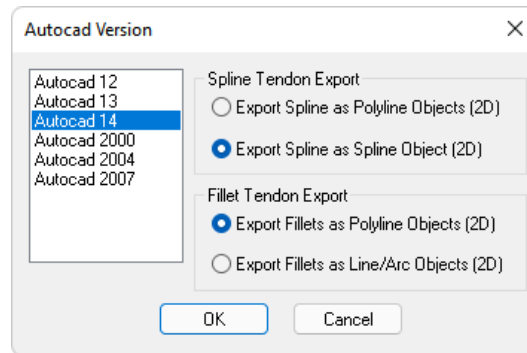

FIGURE 9-136
- We can now export the tendons to a CAD drawing to produce our documentation. Go to **File**→**Export**→**DWG**. This will open the *AutoCAD Version* window where the user can choose the drawing version as well as, whether they want the drawing to export tendons as Polylines or Splines as shown in **FIGURE 9-136**.